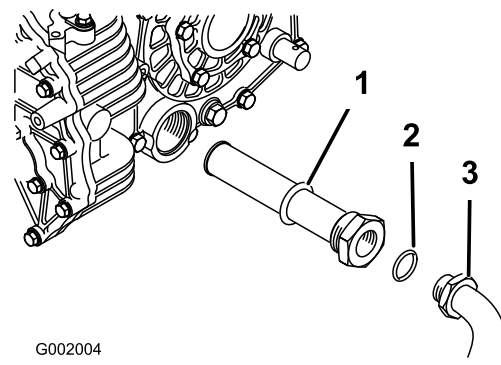

Figure 65
5. Remove the hydraulic hose and 90° fitting (Figure 65).